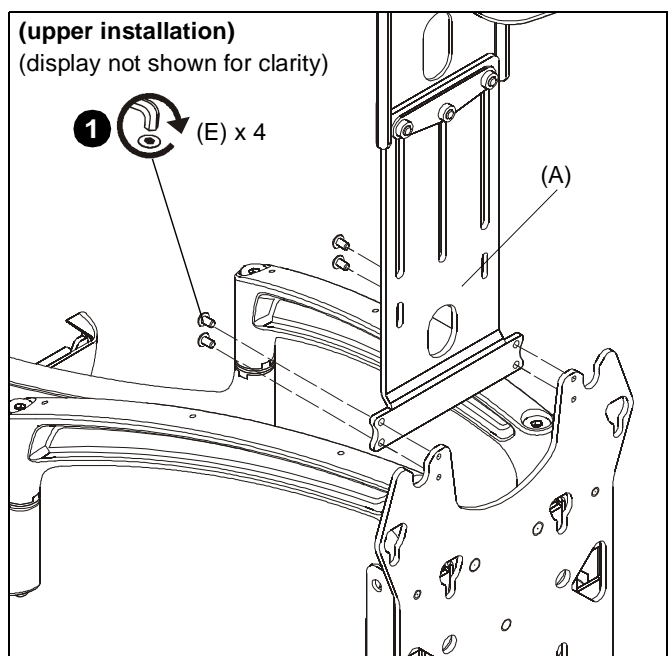
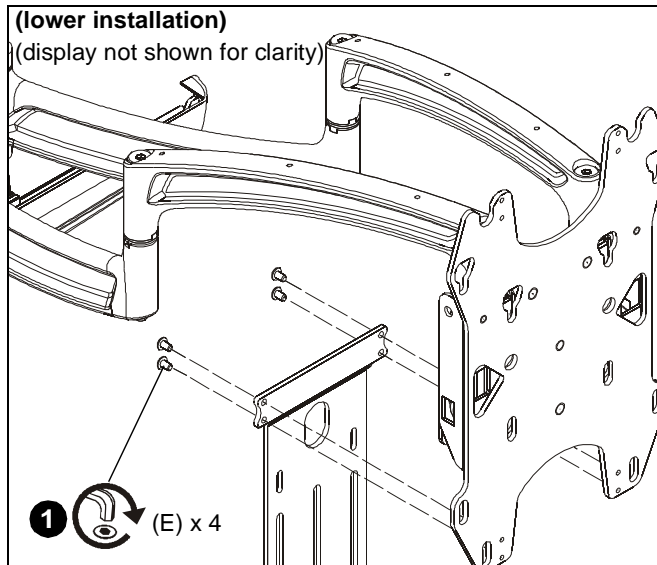

Figure 3
Figure 4
1. Use four #10-24 x 3/8" button head cap screws (E) to connect attachment bracket (A) to swing arm faceplate. (See Figure 3) and (See Figure 4)